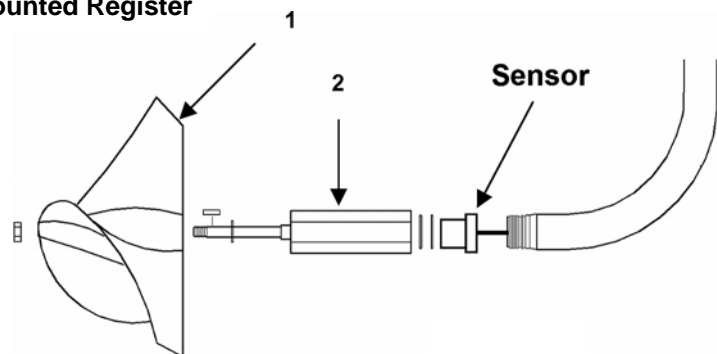

Figure 22
Step 1) Remove the propeller (1) and bearing assembly (2). (Figure 22)
Step 3) Loosen the input cable compression fitting (2) and pull the sensor out of the ell (see Figure 22, previous page). Remove the compression fitting from the base plate (3).